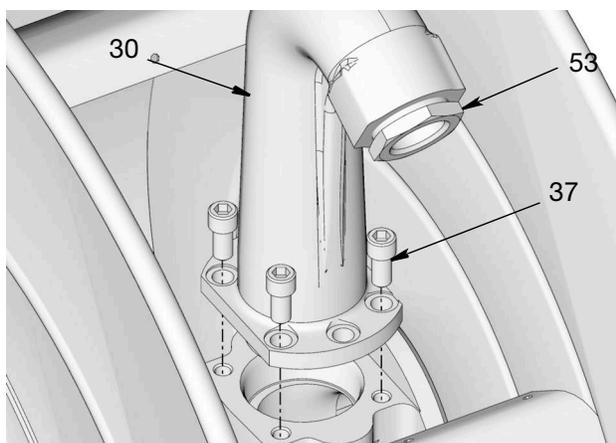

**FIG. 5**
1. If the hose reel is not installed in a fixed location, use 2, large c-clamps (B) (one on the front and one on the back) to secure the hose reel to a flat surface (FIG. 5). Place a rag over the bottom roller and the back frame to protect these surfaces from damage when the c-clamps are tightened down.